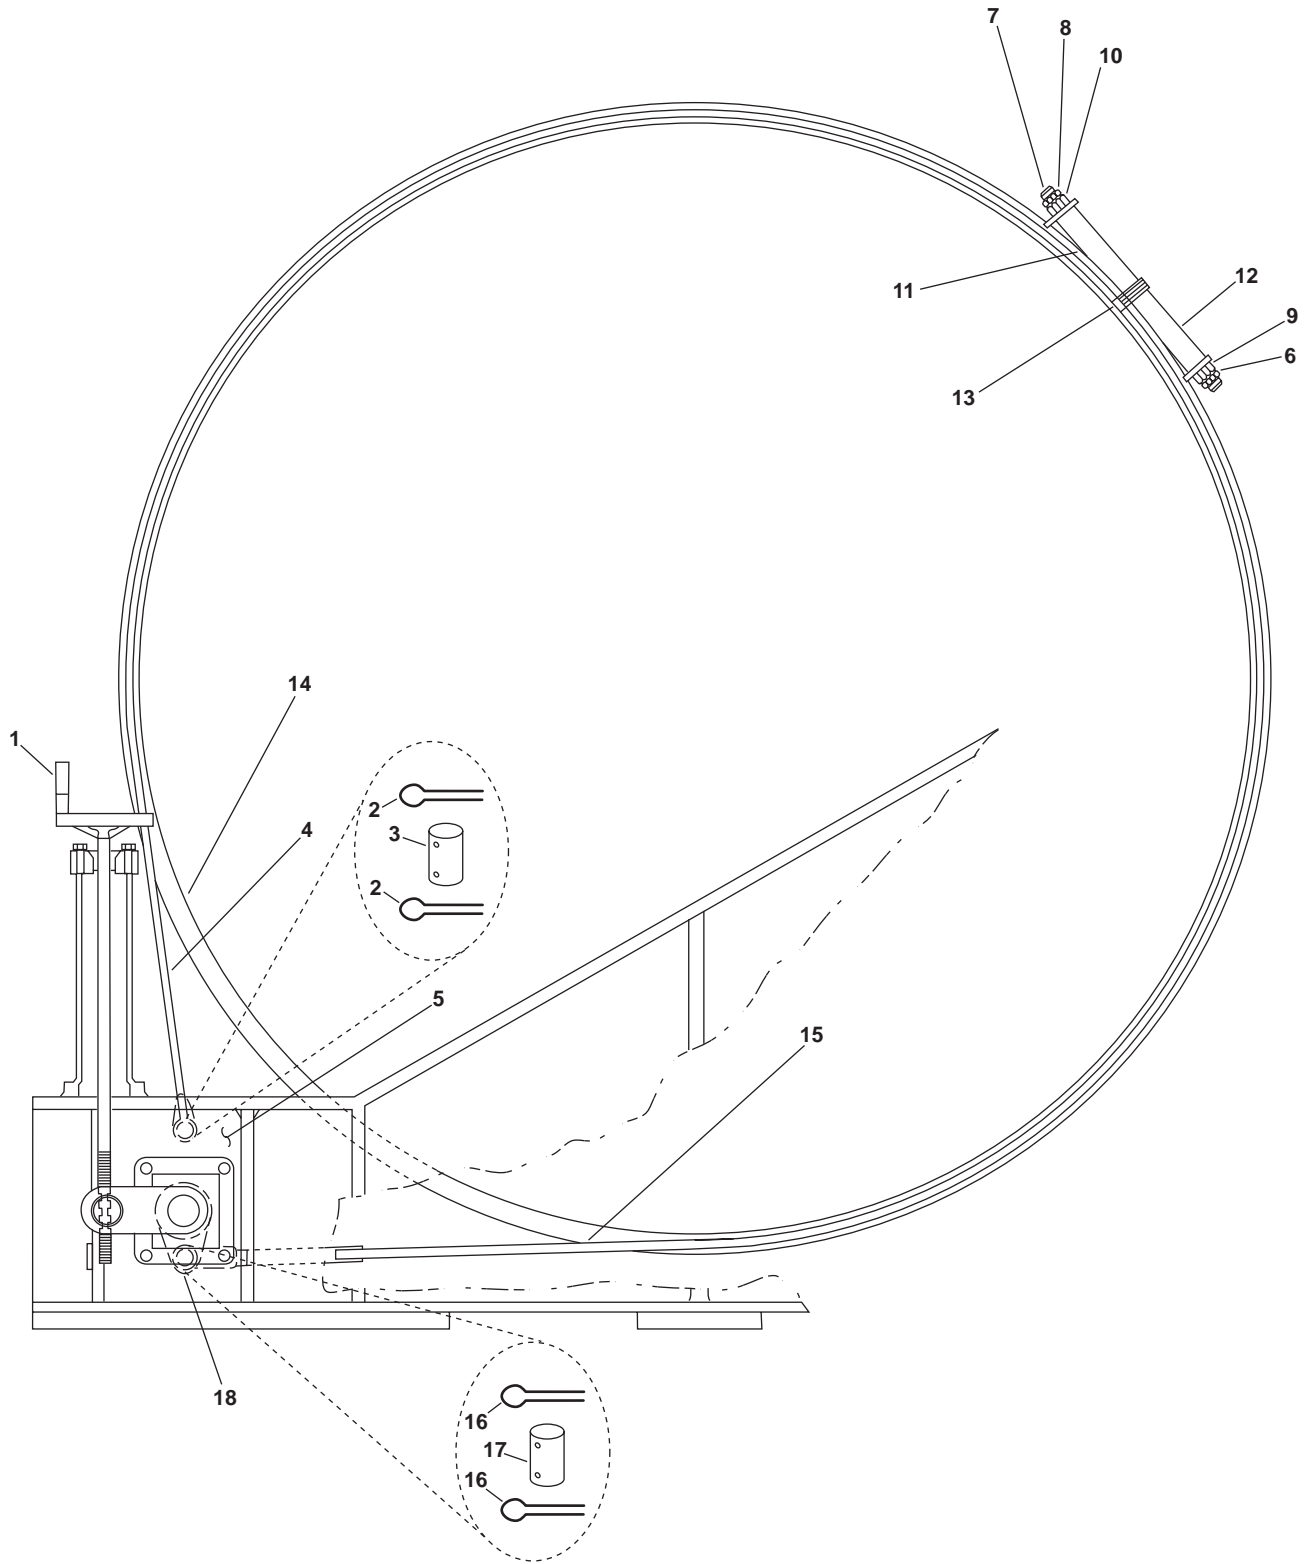

Figure 4. Auxiliary Brake
1. Loosen the auxiliary brake (WP 0020 00) by turning the auxiliary brake handwheel (figure 4, item 1) counter-clockwise.
2. Remove the two cotter pins (figure 4, item 2) from the clevis pin (figure 4, item 3). Discard the cotter pins.
3. Remove the clevis pin (figure 4, item 3) from the upper auxiliary brake band (figure 4, item 4) and the towing machine mounting base (figure 4, item 5).
4. Remove the lower jam nut (figure 4, item 6) from the splice bolt (figure 4, item 7).
5. Remove the upper jam nut (figure 4, item 8) from the splice bolt (figure 4, item 7).
6. Remove the lower hex nut (figure 4, item 9) and the upper hex nut (figure 4, item 10) from the splice bolt (figure 4, item 7) at the same time.
7. Remove the splice bolt (figure 4, item 7) from the upper splice bolt sleeve (figure 4, item 11) and the lower splice bolt sleeve (figure 4, item 12).
8. Remove the washer (figure 4, item 13) from the upper splice bolt sleeve (figure 4, item 11) and the lower splice bolt sleeve (figure 4, item 12).
9. Remove the upper auxiliary brake band (figure 4, item 4) from the towing machine drum (figure 4, item 14).
10. Lay the lower auxiliary brake band (figure 4, item 15) out flat on the deck.
11. Remove the two cotter pins (figure 4, item 16) from the clevis pin (figure 4, item 17). Discard the cotter pins.
12. Remove the clevis pin (figure 4, item 17) from the lever arm (figure 4, item 18).
13. Remove the lower auxiliary brake band (figure 4, item 15) from the level arm (figure 4, item 18).
1. Position the lower auxiliary brake band (figure 4, item 15) in the lever arm (figure 4, item 18) and install the clevis pin (figure 4, item 17) and two new cotter pins (figure 4, item 16).
2. Insert the splice bolt (figure 4, item 7) through the lower splice bolt sleeve (figure 4, item 12) and install the washer (figure 4, item 13).
3. Install the lower hex nut (figure 4, item 9) loosely on the splice bolt (figure 4, item 7).
4. Connect the upper auxiliary brake band (figure 4, item 4) to the lower auxiliary brake band (figure 4, item 15) by installing the splice bolt (figure 4, item 7) through the upper splice bolt sleeve (figure 4, item 11) and installing the upper hex nut (figure 4, item 10). Do not tighten the hex bolt.
5. Connect the upper auxiliary brake band (figure 4, item 4) to the towing machine mounting base (figure 4, item 5) by installing the clevis pin (figure 4, item 3).
6. Install two new cotter pins (figure 4, item 2) in the clevis pin (figure 4, item 3).
7. Adjust the upper auxiliary brake band (figure 4, item 4) and the lower auxiliary brake band (figure 4, item 15) by tightening the lower hex nut (figure 4, item 9) and the upper hex nut (figure 4, item 10). Only tighten the bands enough to keep the towing machine drum (figure 4, item 14) from rotating while the towing machine is not in use.
8. Install the lower jam nut (figure 4, item 6) on the splice bolt (figure 4, item 7).
9. Install the upper jam nut (figure 4, item 8) on the splice bolt (figure 4, item 7).